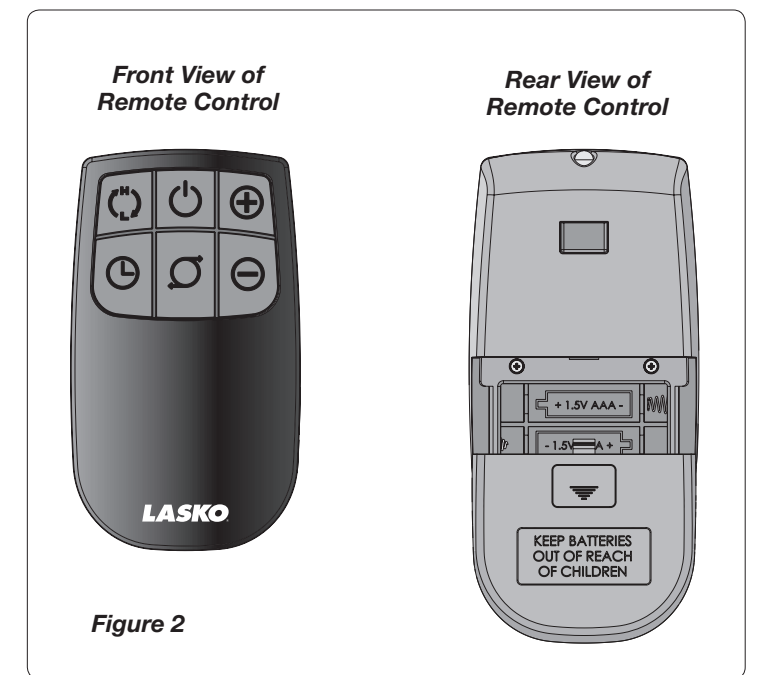

Figure 2
REMOTE CONTROL Figure 2
1. Install the battery shown in **Figure 2**.